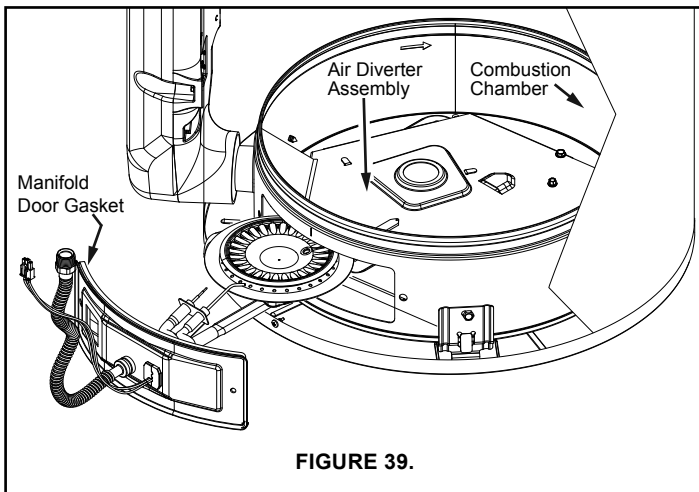

FIGURE 39.
6. Carefully remove the manifold assembly from the burner compartment. **NOTE:** Be sure not to damage internal parts (Figure 39).
2. Use a vacuum cleaner/shop vac to remove all loose debris in the combustion chamber (Figure 39). Use compressed air to clear any dust or debris that may have accumulated on the air diverter assembly.